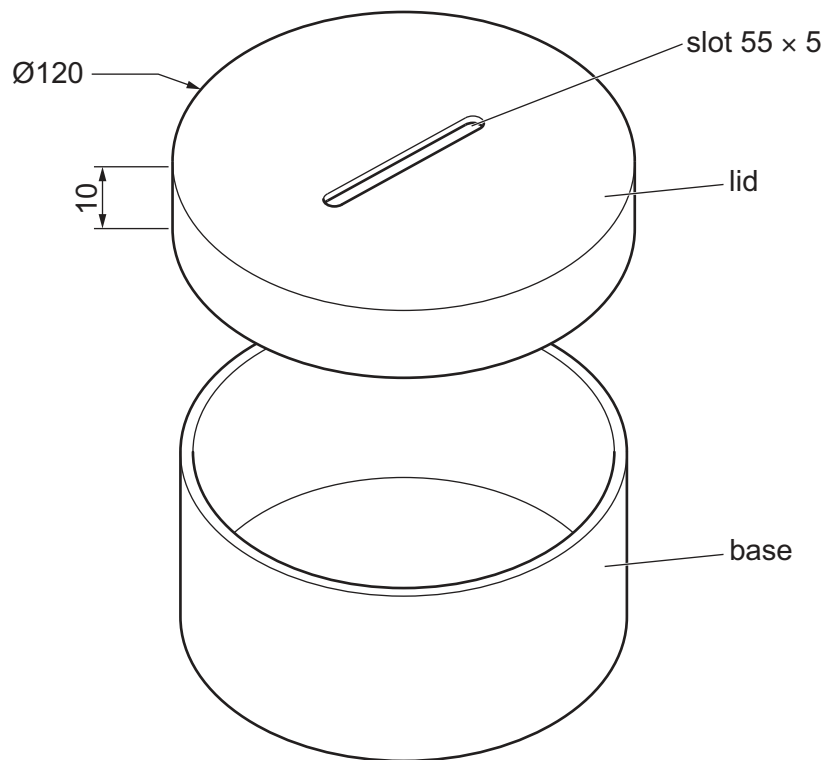

Fig. 1.1
- 1 Fig. 1.1 shows details of a money box.
- (a) State a suitable material for the money box lid shown in Fig. 1.1.
- (b) Use sketches and notes to show how you would make **one** money box lid as shown in Fig. 1.1 in a school workshop.